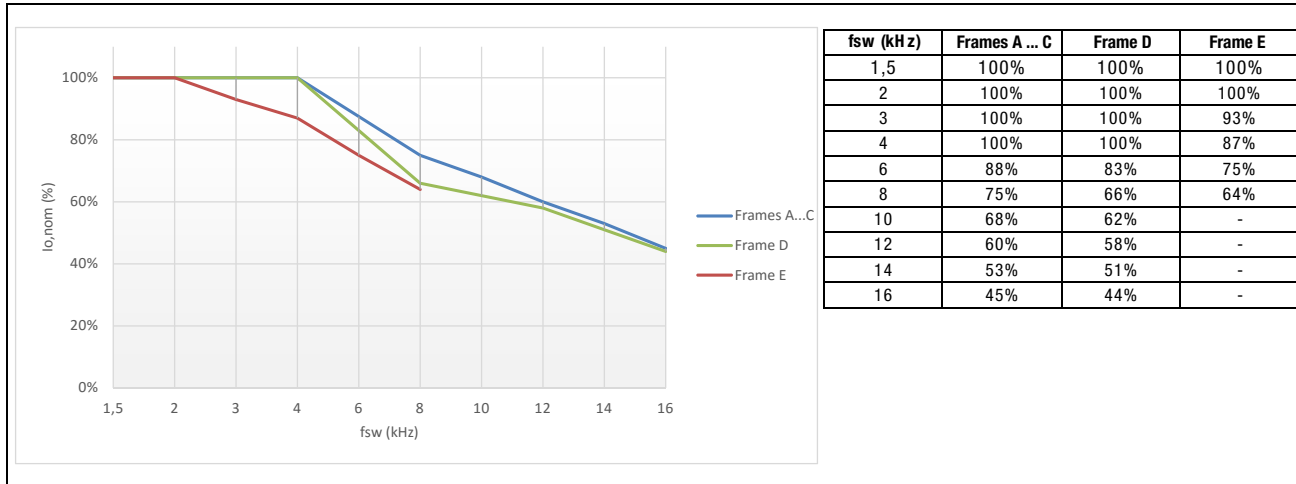

Figure 8.3: Current derating as a function of the switching frequency in the inverter factory settings condition
The rated and maximum switching frequency of CFW900 are defined in item 8.1.2. It is possible to operate with a frequency above the rated one, limited to the maximum frequency; however, in these cases it is necessary to derating the rated current, as shown in Figure 8.3.
In some models of the CFW900 line, it is not possible to follow the derating curve shown in Figure 8.3. In these cases, the values of Table 8.9.